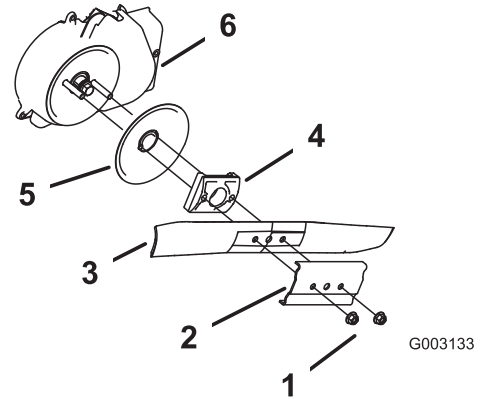

Figure 37
3. Remove the 2 blade nuts and the stiffener (Figure 37).
4. Remove the blade (Figure 37).
5. Remove the blade driver and disk (Figure 37).
6. Remove the blade brake-clutch shield (Figure 37).
10. Install the blade and the stiffener that you previously removed (Figure 37).